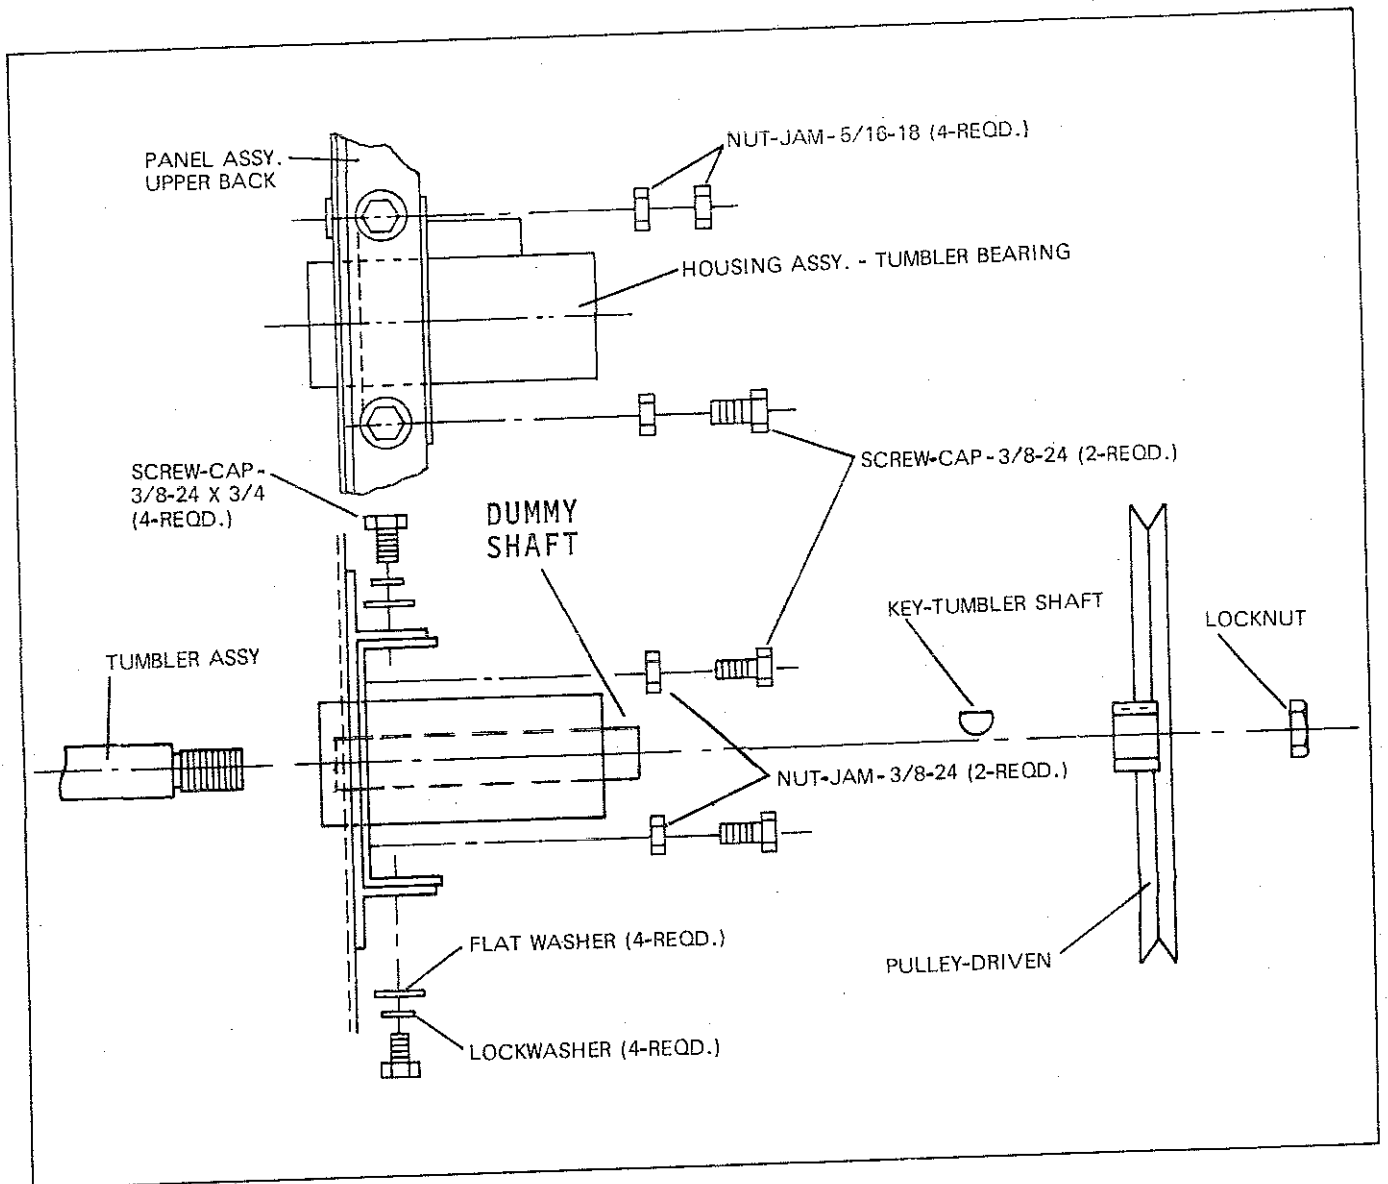

Figure 3-13. Tumbler Bearing Assembly
- To reassemble, the cylinder shaft must be guided into and through the tumbler bearing housing assembly. A dummy shaft will be required for insertion into the rear of this housing assembly. This will line up the bearing spacer with the bearings in the housing assembly. (Refer figure 3-13).
3-32 ADJUSTMENT OF CYLINDER WITH FRONT PANEL IN POSITION (Refer figure 3-13).
3-33 BEARING HOUSING BEARING REMOVAL (Refer figure 3-13).